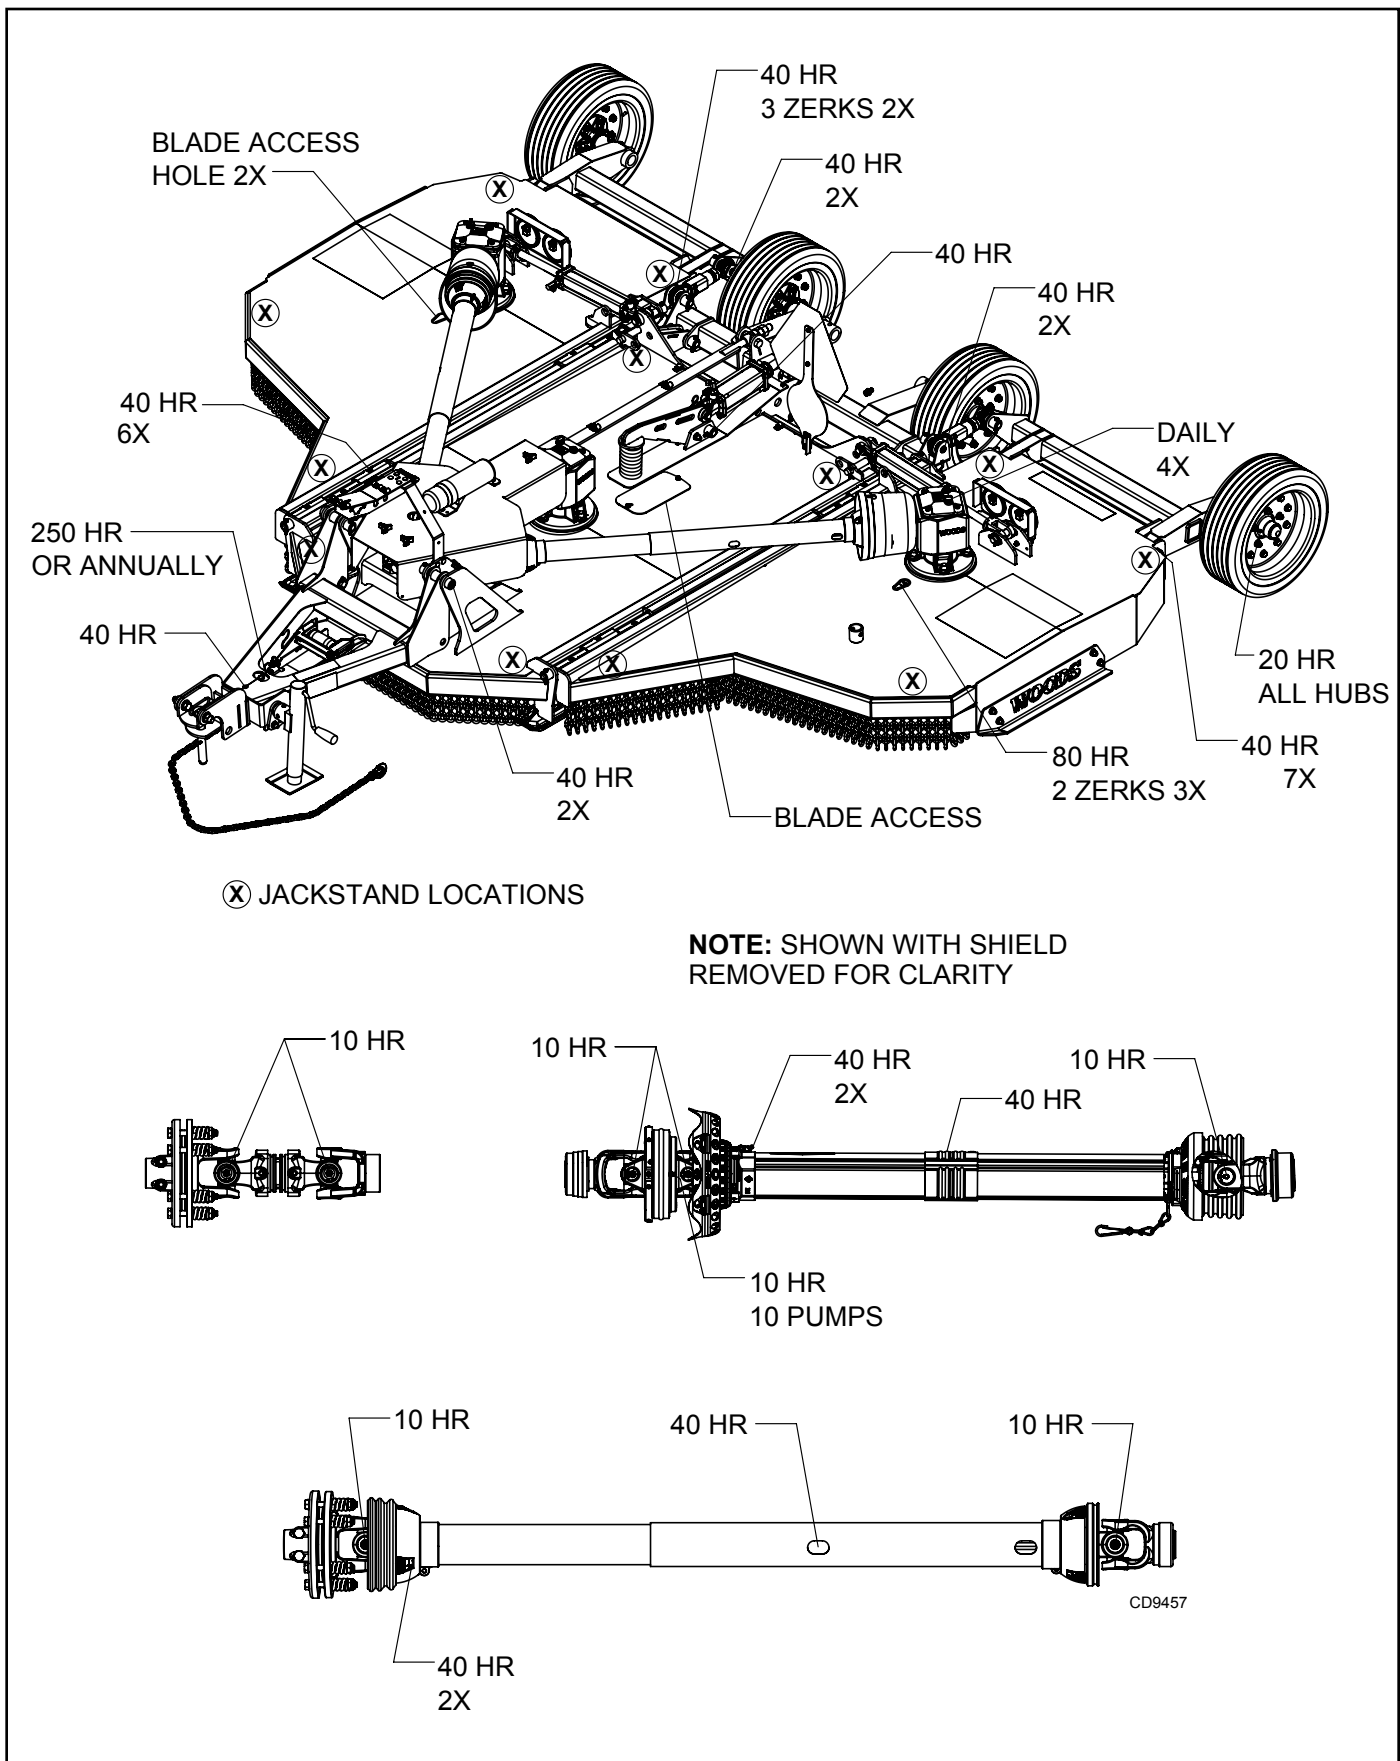

Figure 6. Jackstand Placement and Lubrication Points
1. Jackstands with a load rating of 1000 lbs. or more are the only approved blocking device for this cutter. Install jackstands (shown by Xs in Figure 6) under the cutter before working underneath unit.
- If the cutter moves during storage and pressurizes the hoses, that pressure can be relieved by jacking at the locations shown by X's in Figure 6.
See Figure 6 for lubrication points and frequency or lubrication based on normal operating conditions. Severe or unusual conditions may require more frequent lubrication.
2. Raise cutter and place 4 jack stands under center frame at locations marked "X" in Figure 6, and block securely.
4. Align hole in crossbar (4) with blade access hole in the cutter frame. Remove the bolt (1), blade pin lock clip (2) and keyhole plate (3). Carefully drive blade pin (6) out of crossbar and remove blade (5).